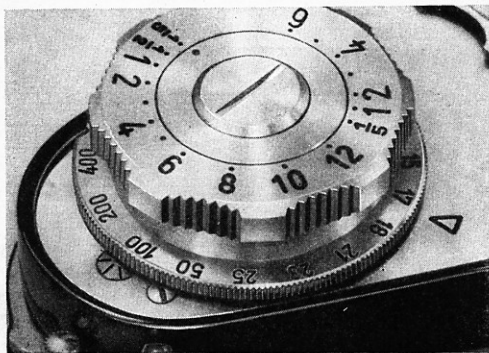

Fig. 36
For control of the film transport there is the control disk marked by a red cross (19): The cross rotates simultaneously with the spool core of the cartridge (Fig. 36).
To assist your memory there is, on the large speed-setting knob (17), a film speed indicator (18). On the EXAKTA Varex IIa this indicator has been adapted to suit international film gradations (Fig. 36). It should be set imme-